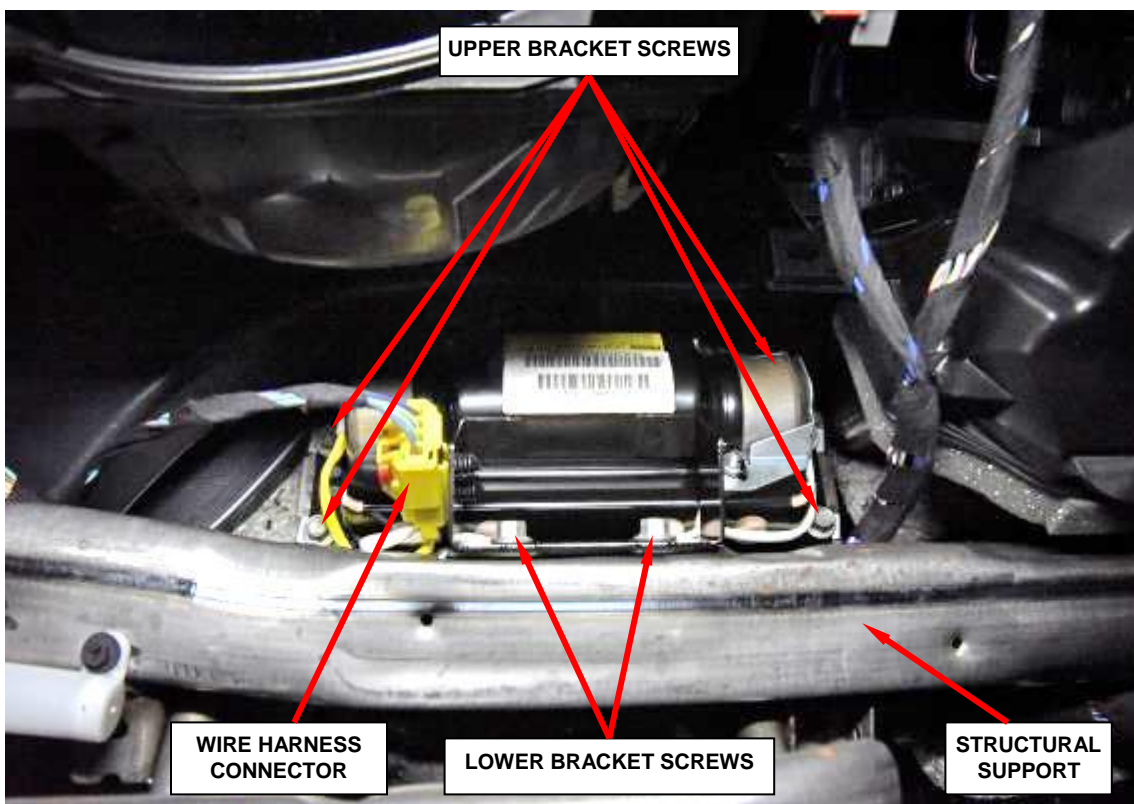

Figure 75 – PAB Housing, Inflator and Cushion to be Removed a Unit (View through Glove Box Opening)
29. Disconnect the instrument panel wire harness connector from the PAB pigtail wire connector (Figure 75).
30. Remove the two screws that secure the PAB lower bracket to the instrument panel structural support (Figure 75).
31. Remove the four screws that secure the PAB upper brackets to the sides of the PAB retainer or chute on the underside of the instrument panel cover (Figure 75).